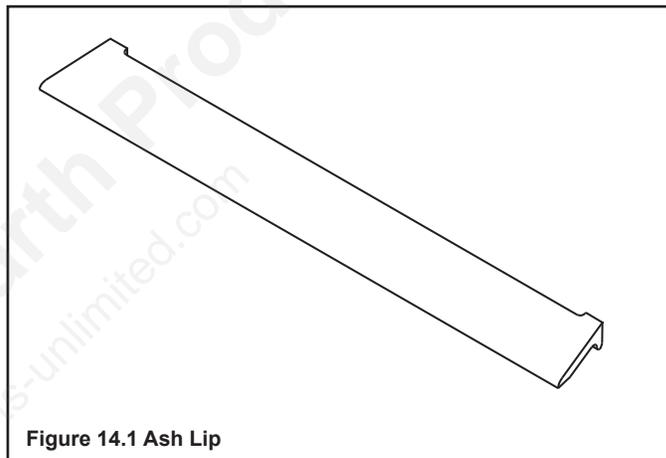

Figure 14.1 Ash Lip
- Remove the ash lip that is located in front of the glass. See Figure 14.1.